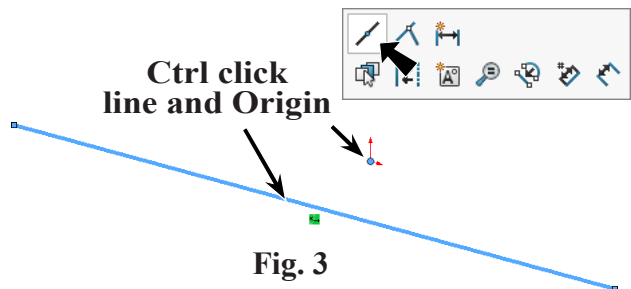

Fig. 3
Step 5. **Ctrl click line and Origin**  to select both. Release Ctrl key and click **Make Midpoint**  on the context toolbar, **Fig. 3**.